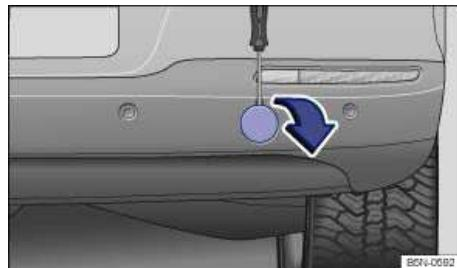

Fig. 214 On the right in the rear bumper: Cover.
The attachment point for the towing eye is located behind a cover on the right rear of the bumper ⇒ fig. 214. In vehicles with a factory-equipped trailer hitch there is no attachment point for the removable towing eye behind the cover. To tow, fit and use the ball mount ⇒ ①.